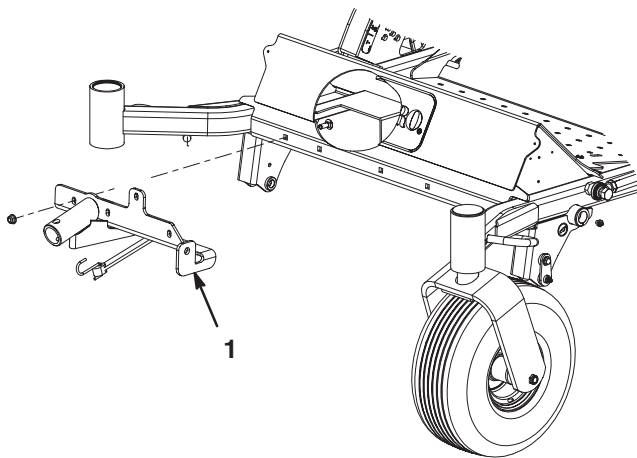

Figure 1
1. Align the holes in the jack mount with the holes in the front of the carrier frame (Fig. 1)
2. Secure the jack mount to the front and underside of the carrier frame with with (5) carriage screws and nuts (Fig. 1).